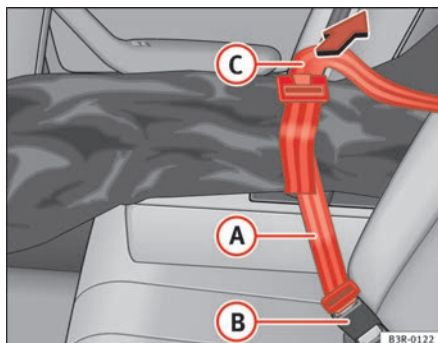

Fig. 121 Securing the ski bag on the centre seat belt buckle on the rear seat bench
- Insert the fastening belt (A) ⇒ fig. 121 of the ski bag into the centre seat belt buckle (B).
- Pull the free end of belt (C) to tighten.